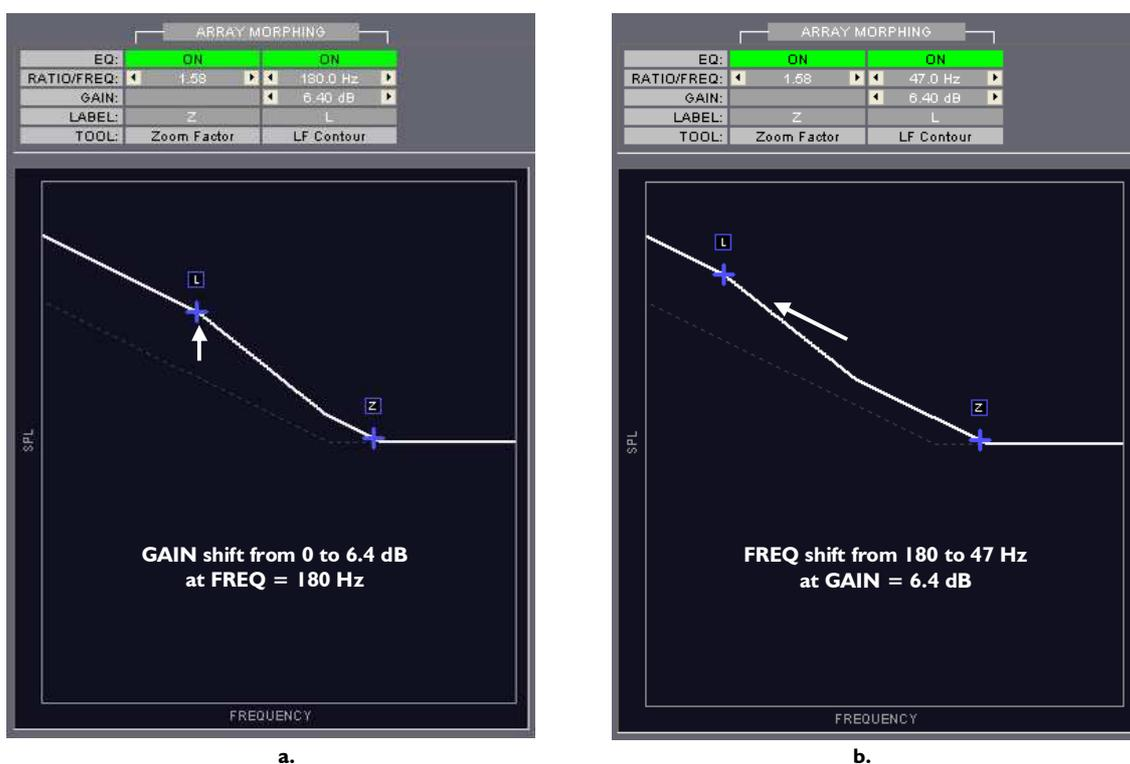

Figure 27: Setting the **FREQUENCY** and **GAIN** parameters
1. In the **LF Contour** menu, click on the **ON/OFF** key and select **ON**: the LF CONTOUR tool is turned on and the key color turns **green** (see Figure 27).